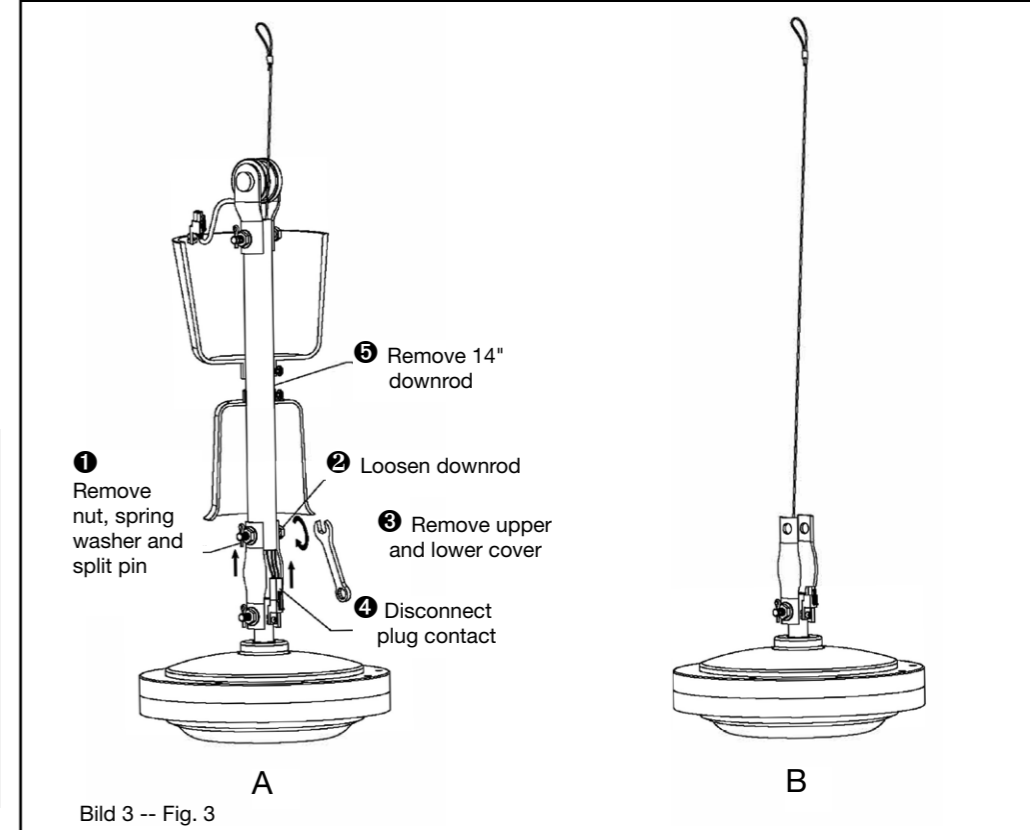
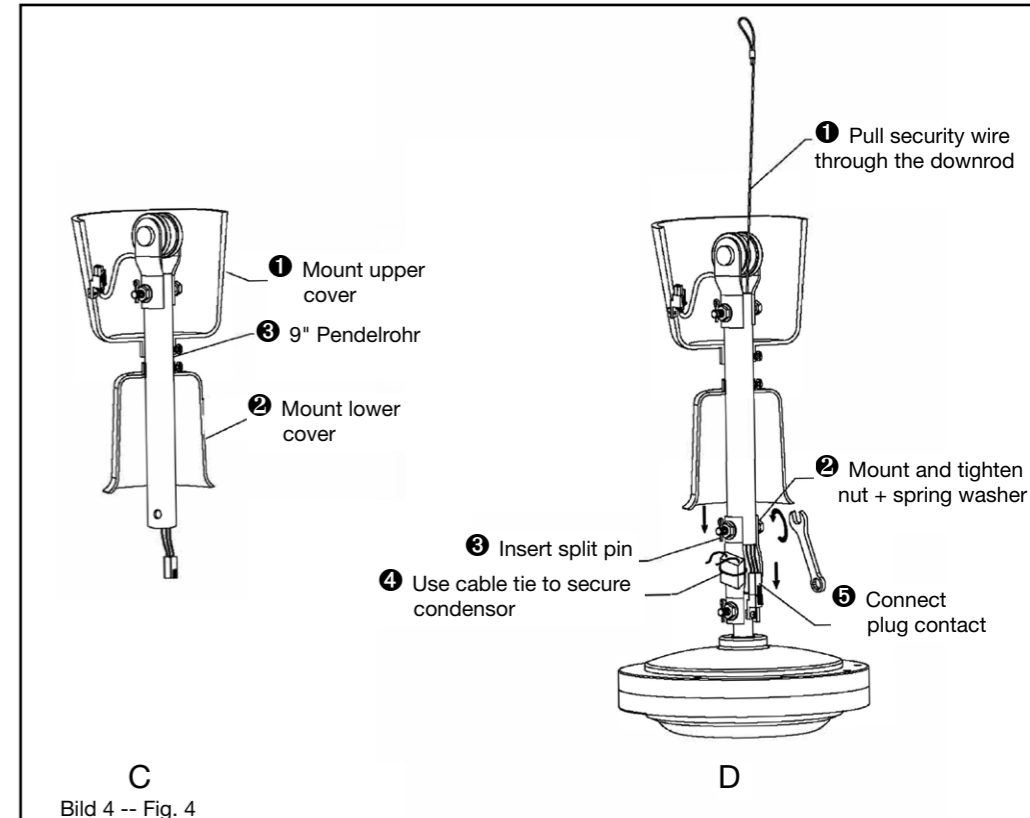

Bild 3 -- Fig. 3
Bild 4 -- Fig. 4
- Determine which downrod (short or long) is to be used. (Fig. 3 and Fig. 4)